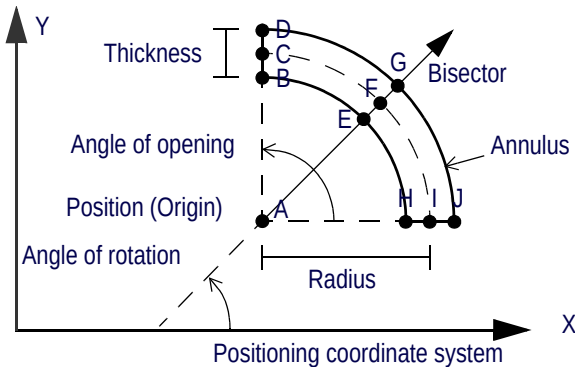

Figure 302 Arc Edge Locator — Adjusting the Sector
- Move the Sector by dragging its border or its origin located at the intersection of its two bounding radii shown with dotted lines. Handle *A* in Figure 302.
- Adjust the Sector's radius by dragging its center located at the intersection between the bisector and the median annulus. Handle *F* in Figure 302.
- Set the Sector's thickness by dragging any of its four resizing handles located at intersections between its two bounding radii and annuli or by dragging the two resizing handles located at the intersections of the bisector and the two bounding annuli. Handles *B*, *D*, *E*, *G*, *H*, and *J* in Figure 302.
- Set the Sector's opening by dragging any of its four resizing handles located at intersections between its two bounding radii and annuli. Handles *B*, *D*, *H*, and *J* in Figure 302.
- Rotate the Sector by dragging the two intersections between the median annulus and the two bounding radii. Handles *C*, and *I* in Figure 302.